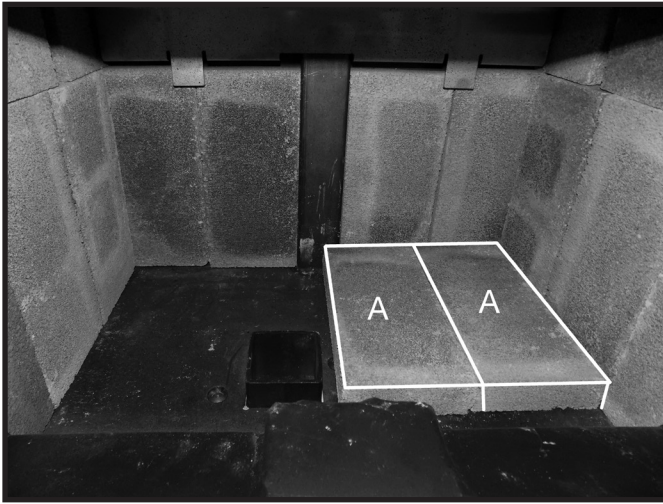

Figure 26: First two floor bricks in place.
- Place two "A" firebricks on the firebox floor as shown in (Figure 26).